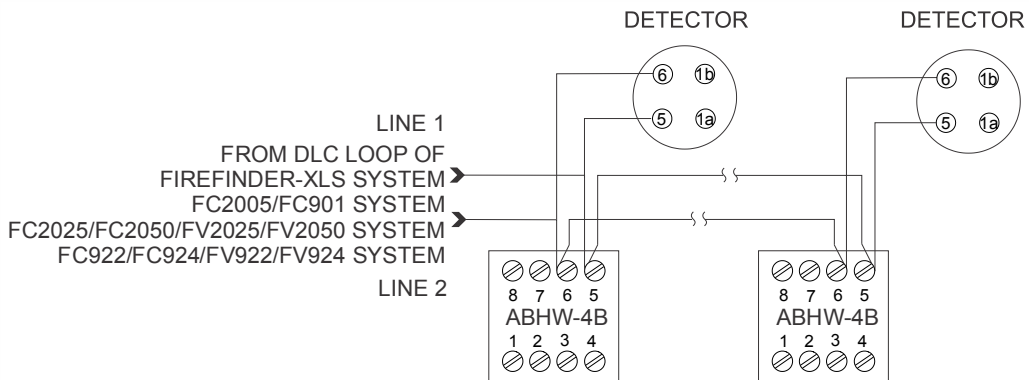

Figure 5
4. Refer to Figure 5 for "Loop Powered". The maximum number of "loop powered" ABHW-4B is limited by the max. load capacity and devices loaded in loop. Refer to APPENDIX-A in this document to calculate the max. number of "loop powered" ABHW-4B audible bases.